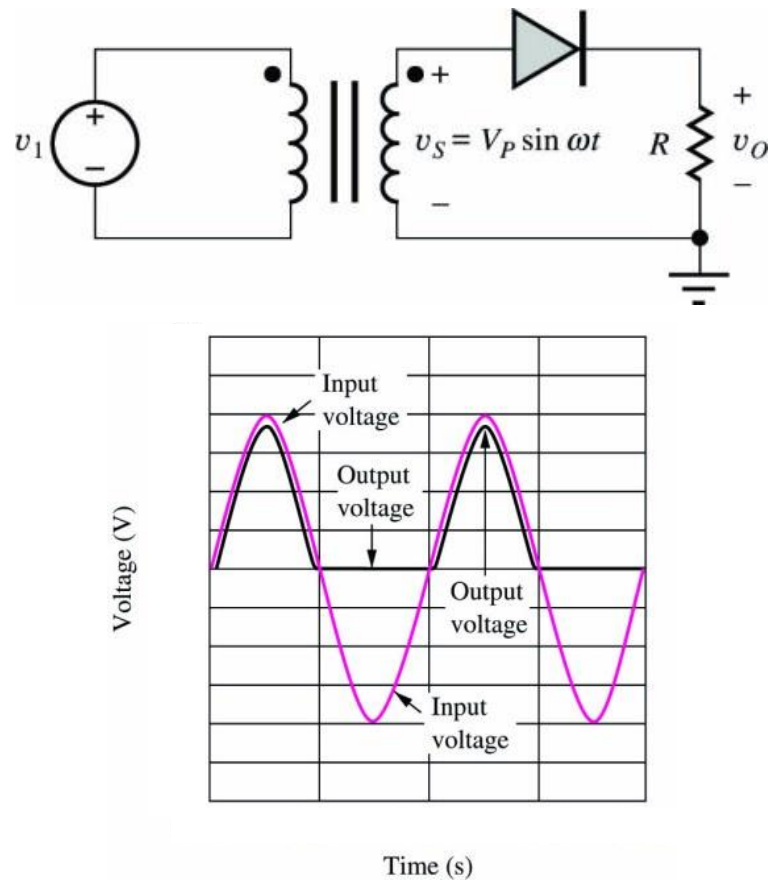

Figure 6-3-2: A half-wave rectifier and its output waveforms when the input is a 220/(12-0-12) center-tapped transformer
4. In this experiment, the input of the half-wave rectifier is a 220/(12-0-12) center-tapped transformer as shown in Figure 6-3-2.